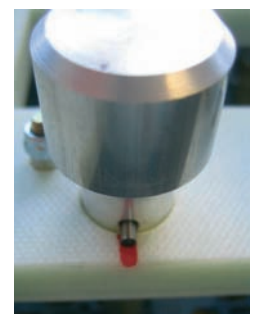

Fig.4 Form punch
- ✓ Devices (for example spiral antenna) are fixed in a pre-set radial position using a form punch at a pre-set angle (Fig.4)